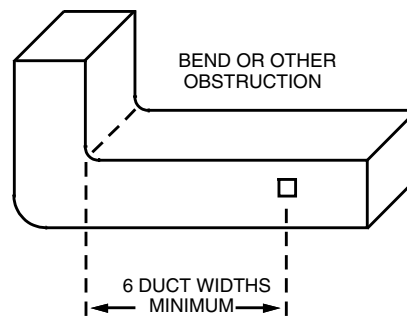

Figure 9. Duct Housing Placement - Location of Bends or Inlets
1. It is recommended to locate detectors/sensors a minimum of six duct widths downstream from bends or inlets. Such locations ensure that air flow is non-turbulent and that smoke is properly mixed with air in the duct for maximum detector/sensor efficiency. See Figures 9 and 10.
Note: Installation of a duct detector/sensor to a round duct is the same as shown in Figures 9 and 10 as long as the round duct is 18 inches or larger (45.7 cm) in diameter.